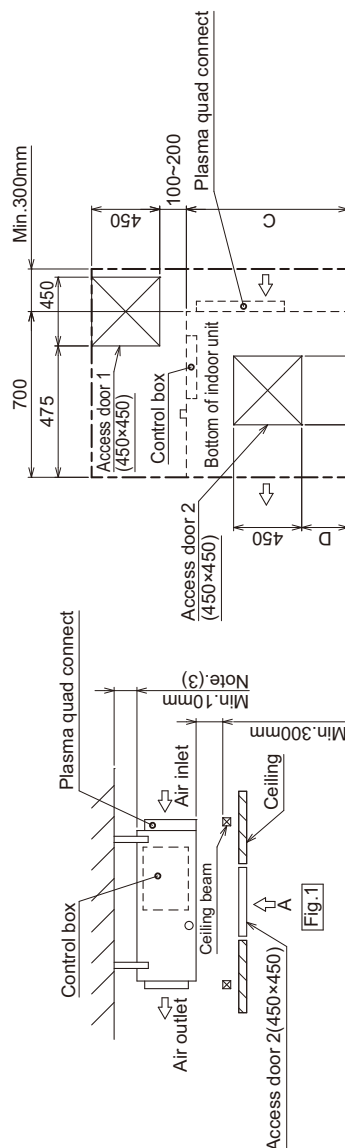

Fig. 2 (Viewed from the direction of the arrow A)
• Create access door 1 and 2 (450x450mm each) as shown in Fig. 2.
- Create access door 1 and 2 (450x450mm each) as shown in Fig. 2.
(2) When a space of less than 300mm is available below the unit between the unit and the ceiling.
- Create access door 1 and 2 (450×450mm each) as shown in Fig. 2.